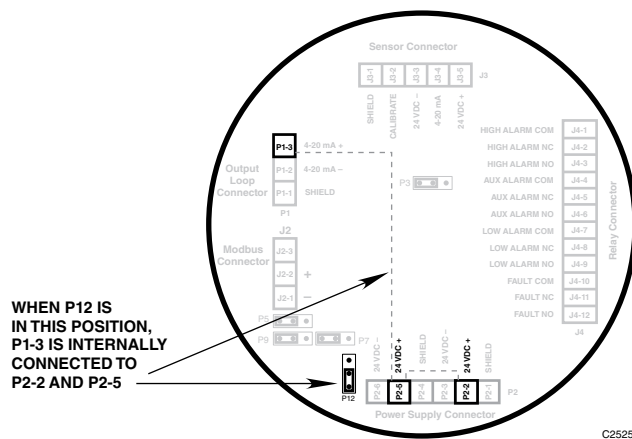

Figure 4—Position of Jumper P12 for Non-Isolated 4-20 mA Loop Output
- For a **non-isolated** 4-20 mA loop, set jumper plug as shown in Figure 4. This applies +24 Vdc to P1-3 via an internal connection to terminals P2-2 and P2-5.
Figure 4 shows jumper plug P12 positioned to power the 4-20 mA loop from the main power source (non-isolated output).